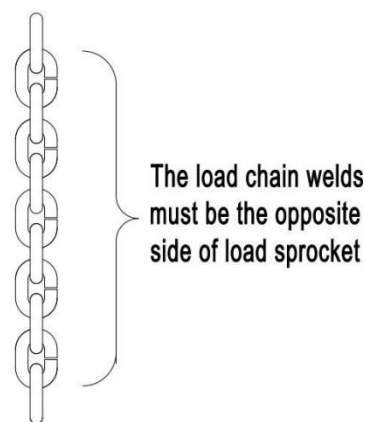

Figure 5
5. Check that the chain is not twisted at the bottom hook. All welds should face the same direction (Figure 5).